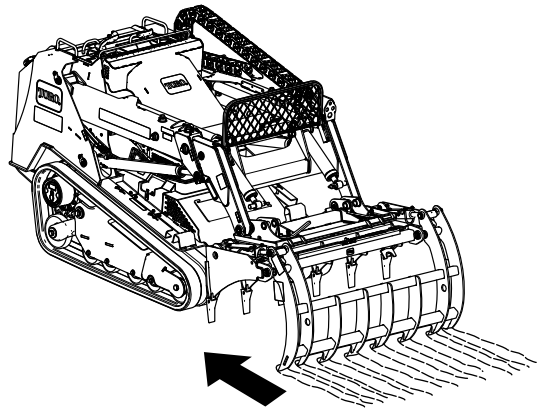

Figure 5
2. Drive the machine rearwards. To rake up loose sticks and other debris, which you can then grab with the jaws, place the teeth on the ground. To dig furrows in the earth and break up the sod, penetrate the ground with the teeth (Figure 5).